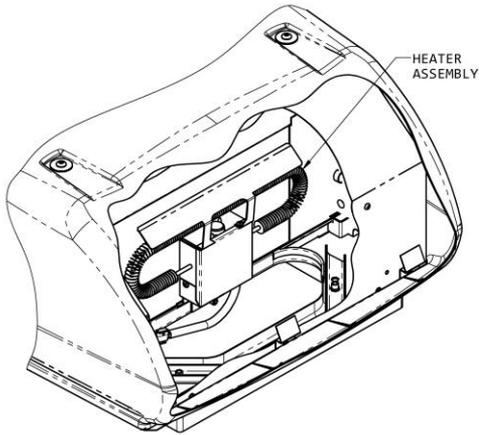
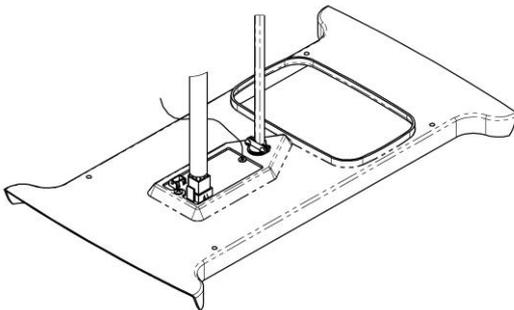

FIGURE 7
FIGURE 9
If the heater option is being installed, position the heater assembly in the Heat Pump return air opening as shown in Figure 7. The heater bracket must be installed over the metal basepan extrusion and positioned between the basepan and the plastic drain pan (See Figure 9). Tighten set screw to secure the assembly to prevent movement. Replace the selector switch control knob on the ceiling assembly with the knob provided with the optional heater.
- C. Raise the ceiling assembly chute and insert the supply wiring through the cable clamp and into the wiring box so that 4-6" of supply conductor is inside the box. Secure the cable clamp over the supply wire sheath so that no movement is possible (See Figure 9).
- F. Plug the Heat Pump electrical conduit into the 9 position receptacle as shown in Figure 9.
- G. If the optional heater accessory is being installed, remove the cover from the 2 position receptacle and plug the heater cord into the receptacle as shown in Figure 9.